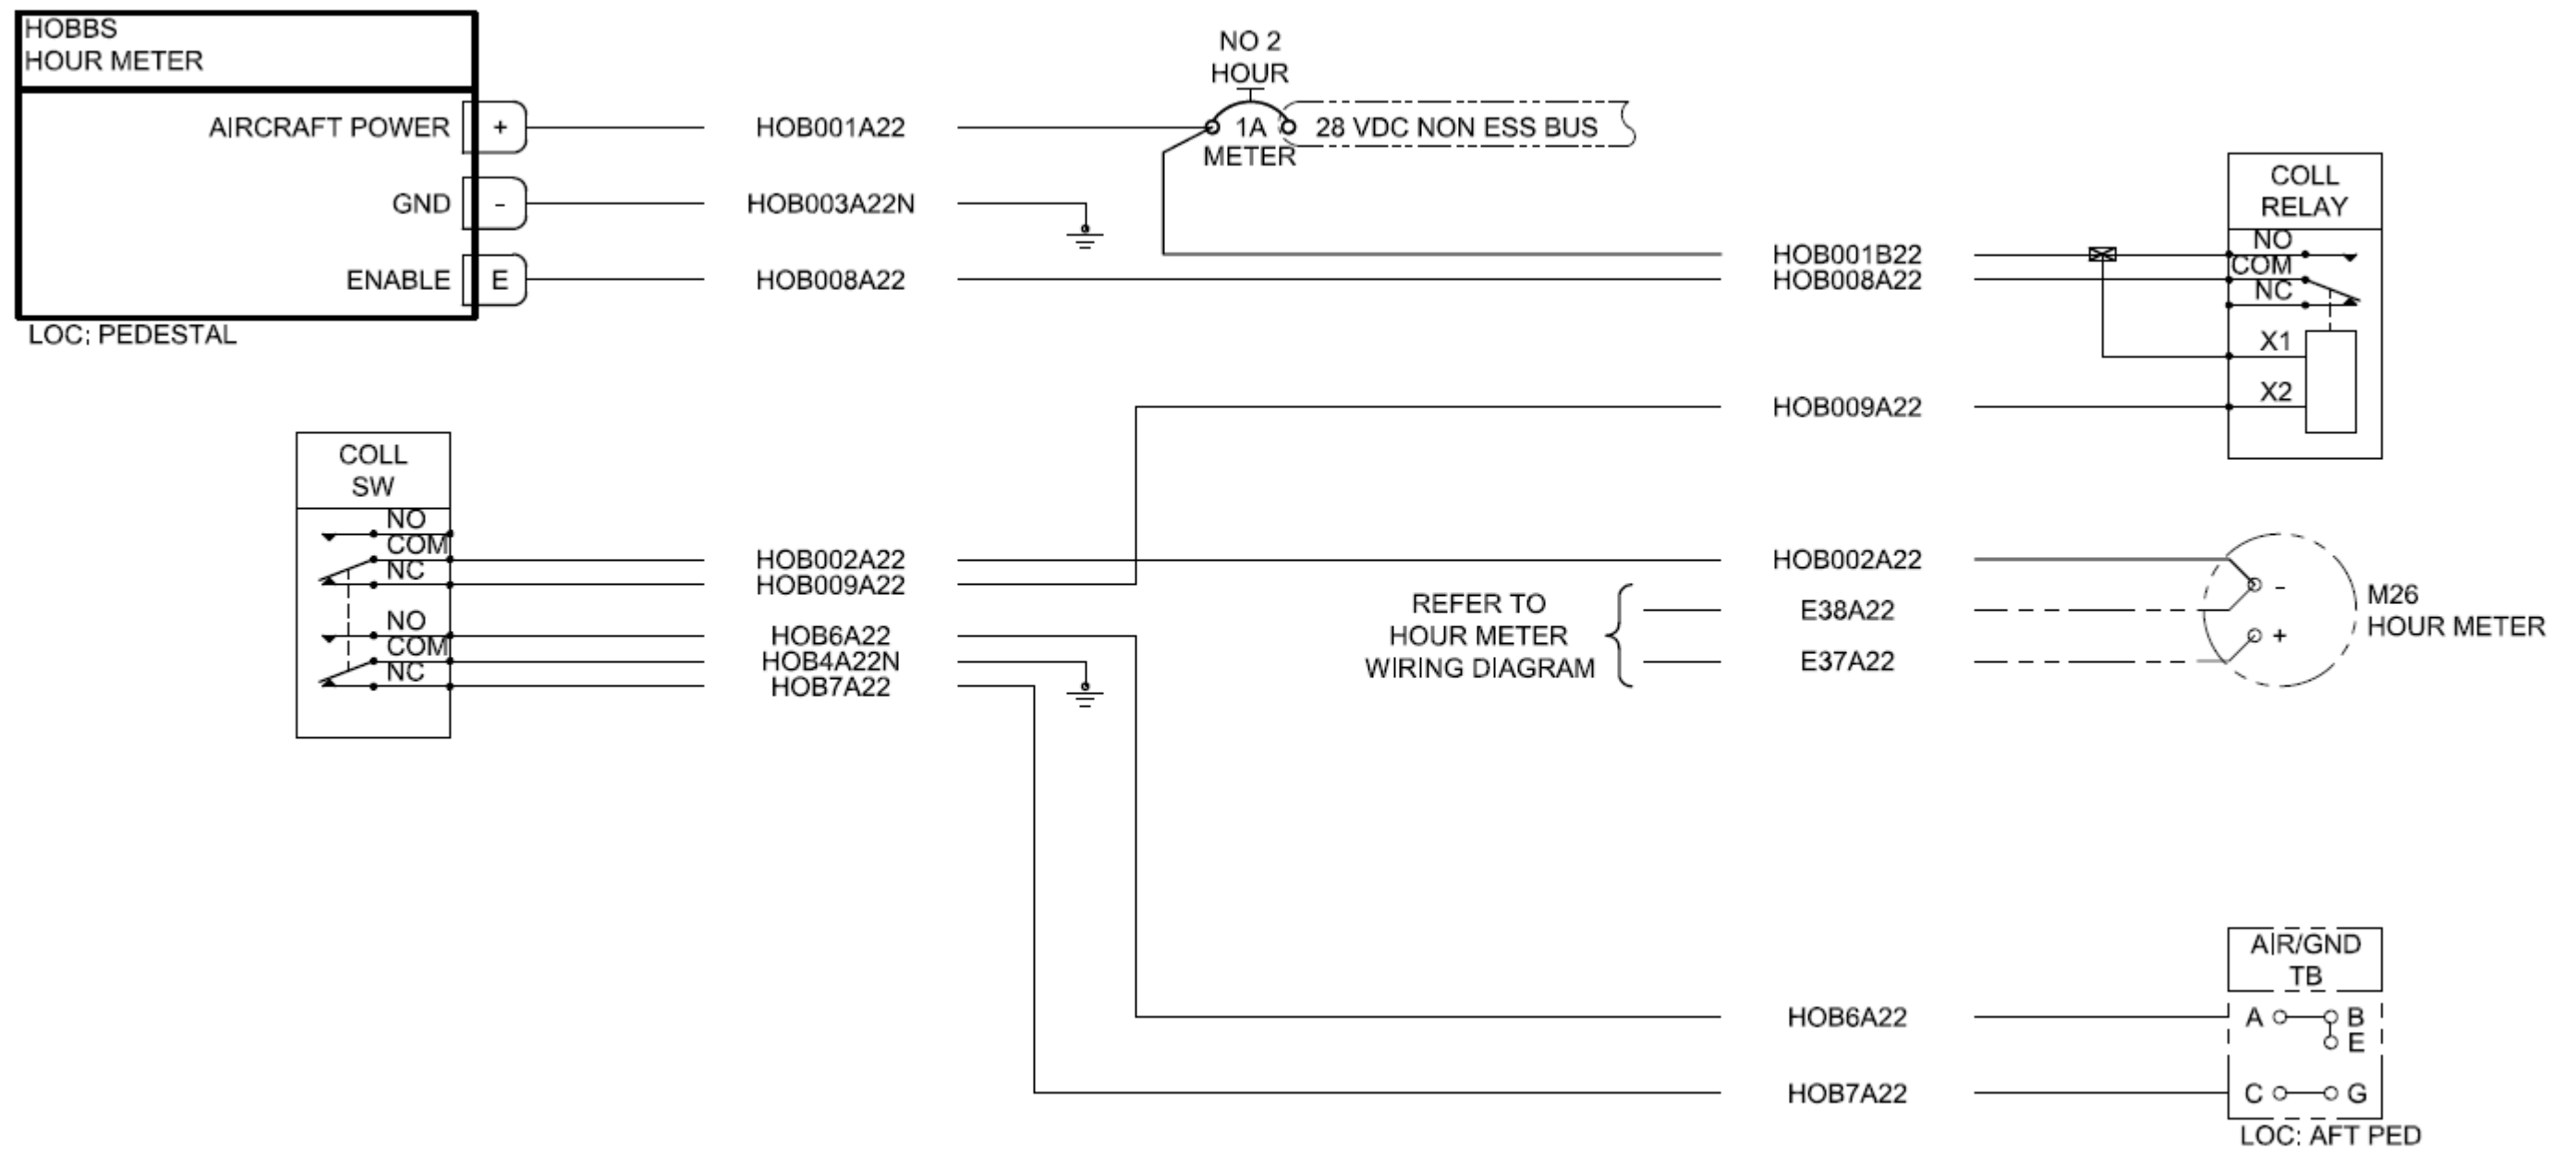
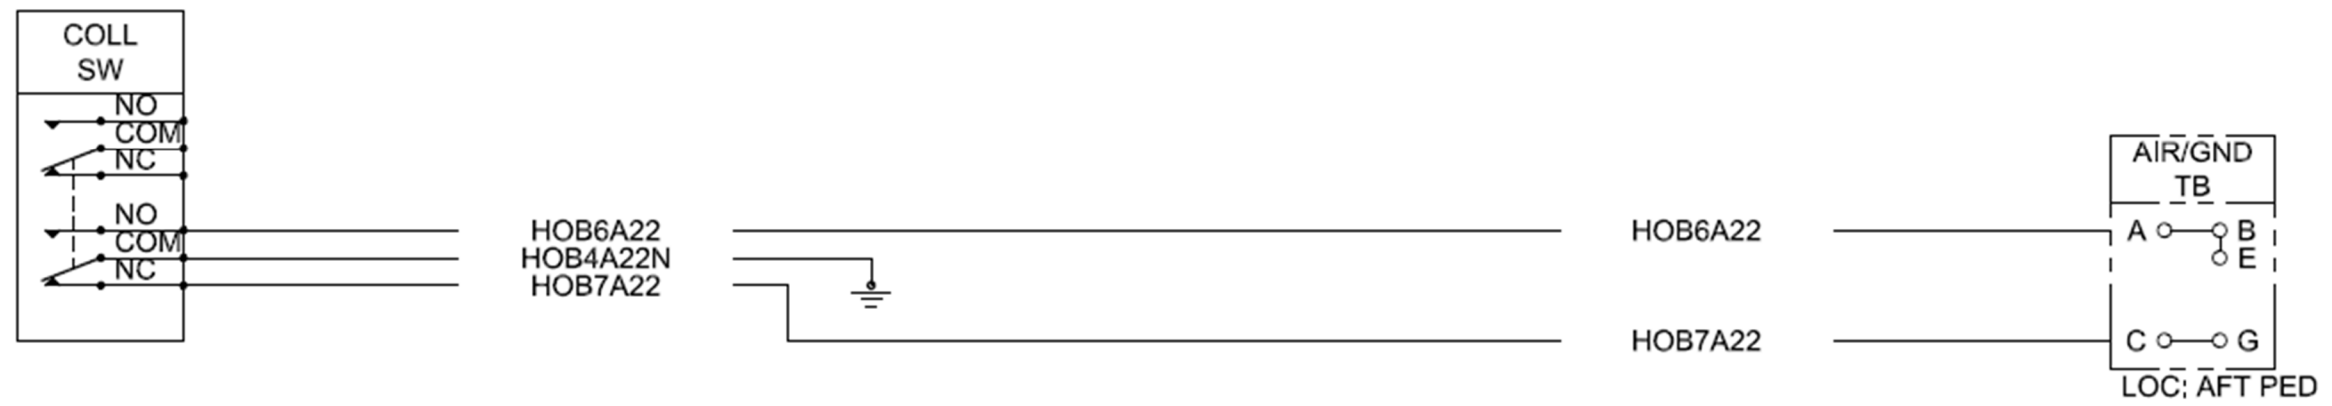
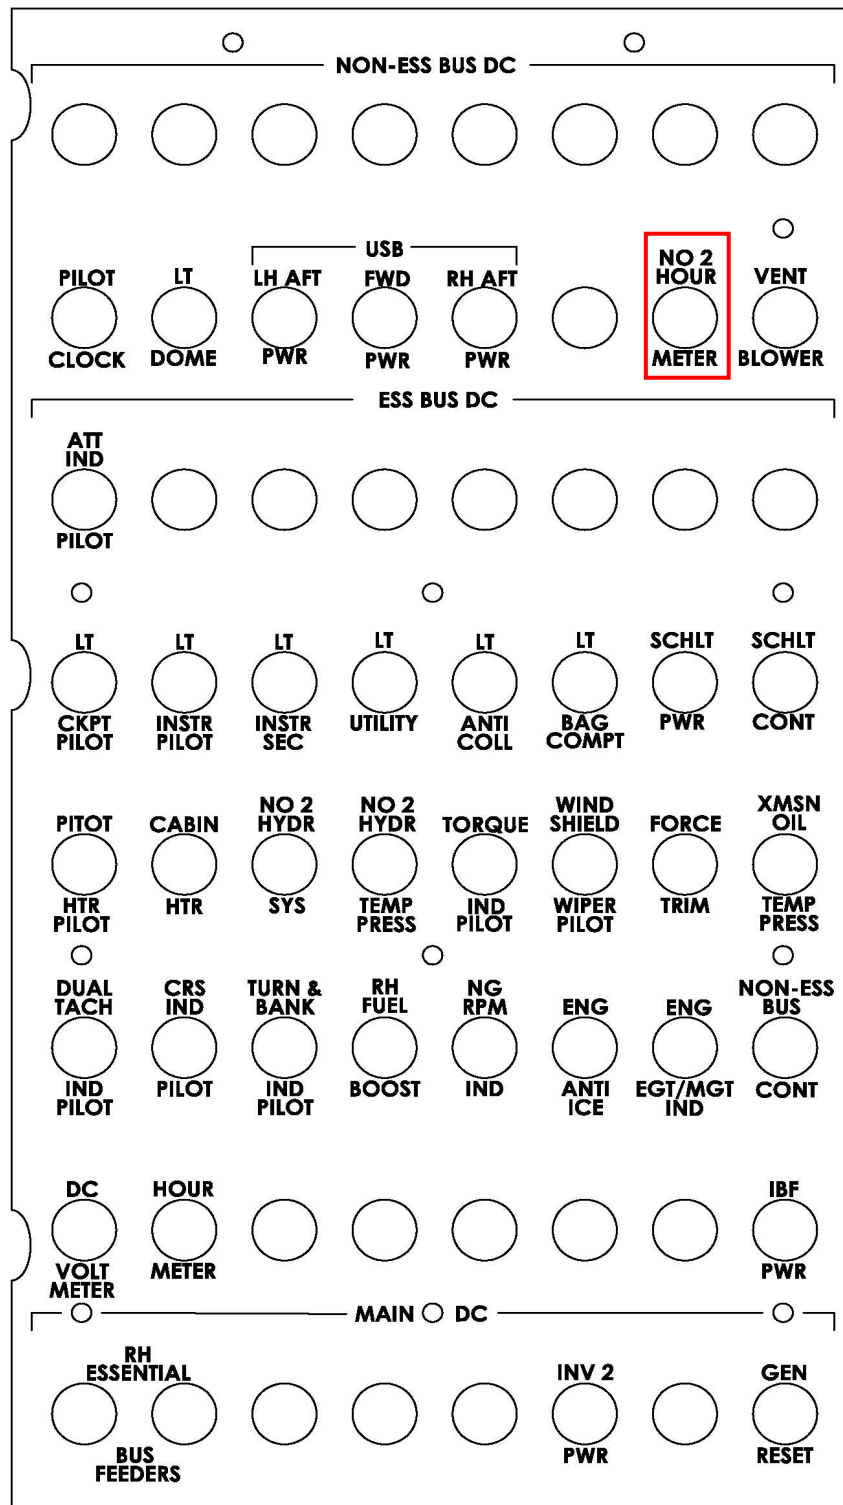

Figure 2 – Second Hour Meter Install Wiring Diagram -011 Configuration (with flight timer)
Figure 3 - Collective Switch Install Wiring Diagram -013 Configuration (without Flight Timer)
Figure 6 – CB Installation Overhead Panel, RH
3. Install circuit breaker (P/N: M22073-1) in accordance with Figure 6. The circuit breaker can be installed on the Overhead Circuit Breaker Panel, RH Non-Ess Bus DC, see Figure 6. Label CB "NO 2 HOUR METER" IAW Figure 2.
4. Install wiring in accordance with or Figure 2, as applicable.
2. Install wiring in accordance with Figure 3, as applicable.
3. Ensure that all cables are properly secured in accordance with Figure 2 or Figure 3 as applicable.